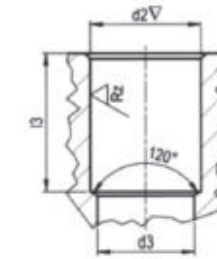

Fig. 1
- The drilled hole (Fig. 1) must be within the tolerances shown on the preceding dimensional sheets.